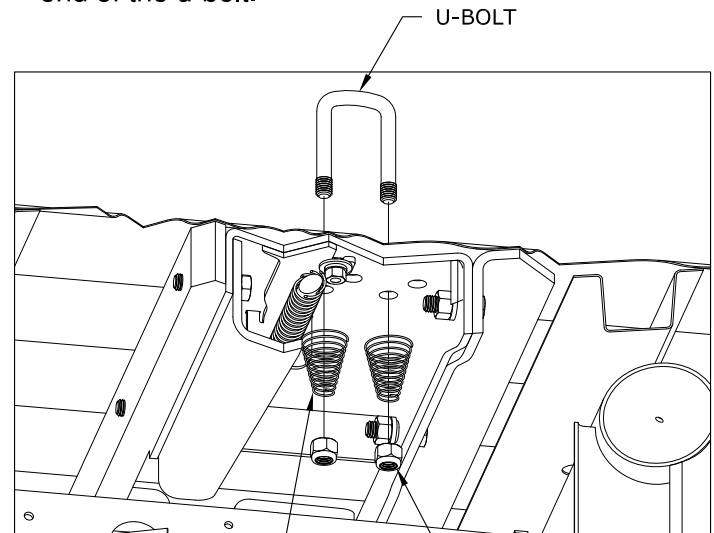

FIGURE G3: Cut away view of bed and center section
3. **Add springs.** Place a conical spring over each leg of the u-bolts and secure with a $\frac{1}{2}$ " lock nut, see figure G3 Tighten the lock nut until the nut is flush with the end of the u-bolt.